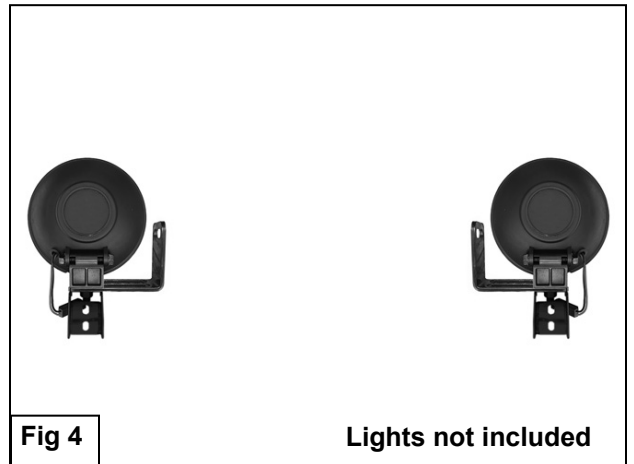

Fig 4
- IMPORTANT:** If installing additional lights to the outside of the LED light bar, use the bolt/stud on the bottom of the light to attach the "L" Bracket to the Bull Bar Light Bracket, **(Figure 4)**.